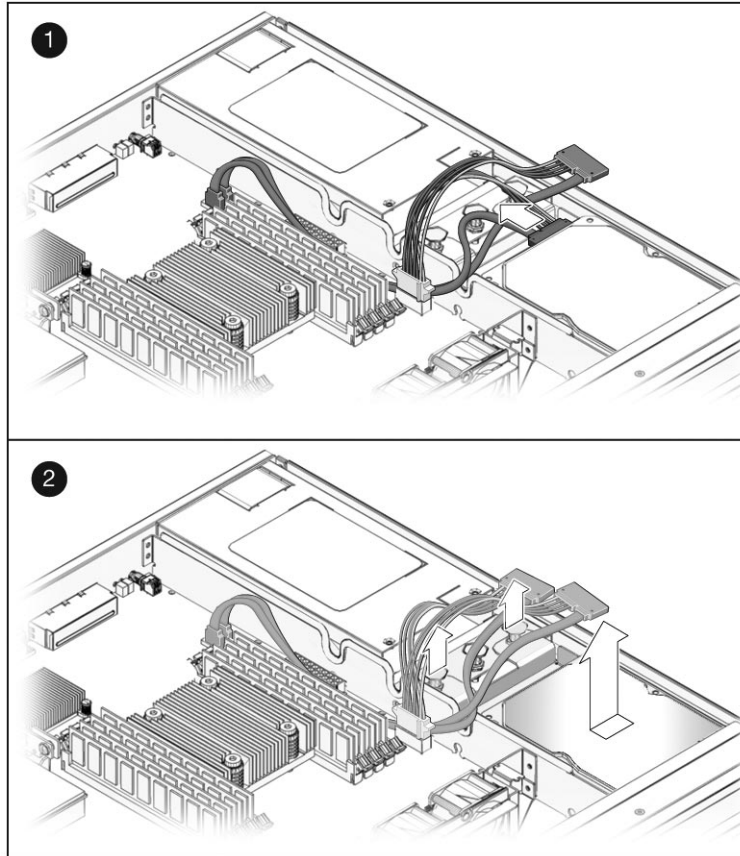

FIGURE 5-9 Removing the Single-Drive Assembly
2. Disconnect the drive cable from the data/power connector at the rear of the hard drive (FIGURE 5-9).
3. Pull the fasteners up on the rear of the single-drive assembly and remove the assembly from the chassis (FIGURE 5-9).